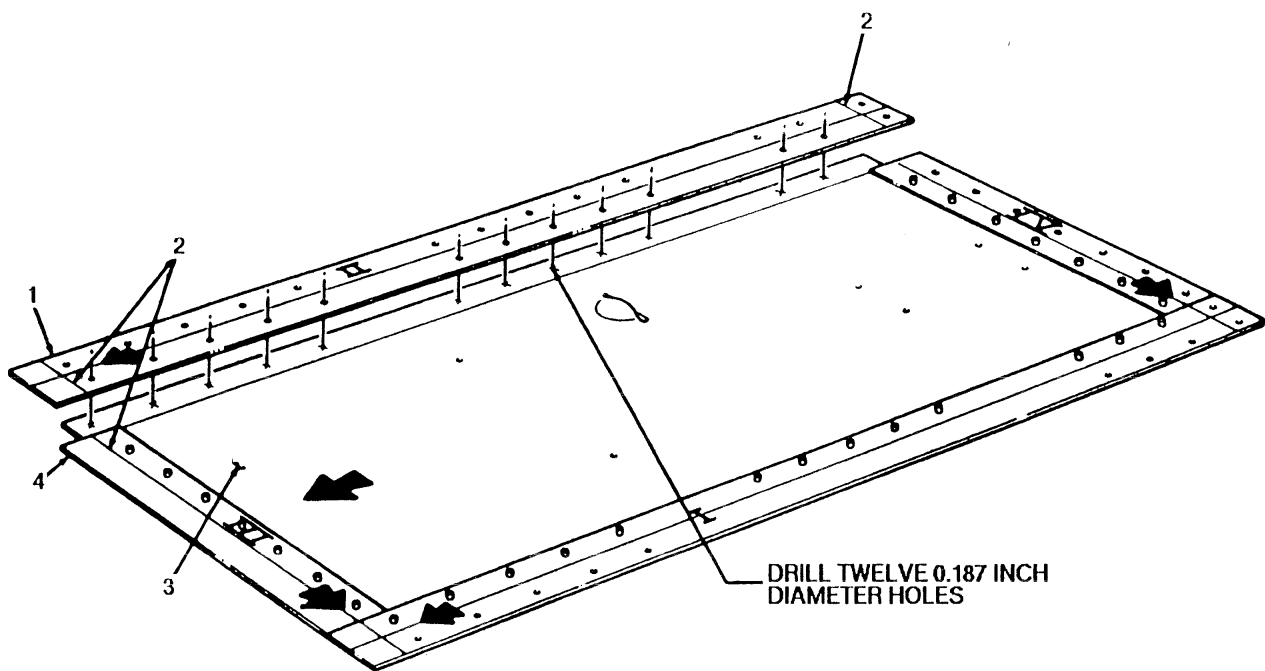
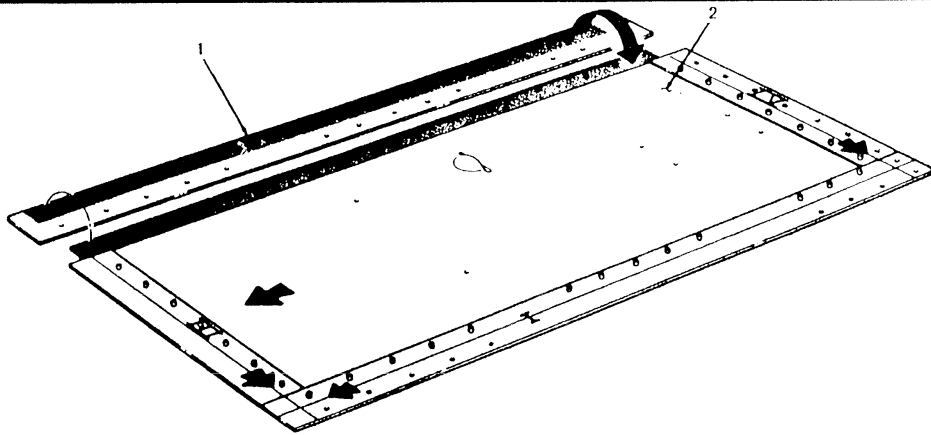

FIGURE 3-48
FIGURE 3-49
1. Place insert panel (3) on a suitable work surface with the arrow facing up and toward left hand. (see figure 3-48)
2. Position metal strip "II" (1), with arrow facing up and toward metal strip "III" (4), onto insert panel (3). Align reference lines (2).
3. Using metal strip "II" (1) as a template, locate, mark, and drill twelve 0.187-inch diameter holes in insert panel (3). Remove metal strip "II" (1).
4. Apply approximately 0.125-inch thickness of P/N 89616 Silaprene adhesive sealant to shaded mating surfaces on insert panel (2) and metal strip "II" (1). (see figure 3-49)